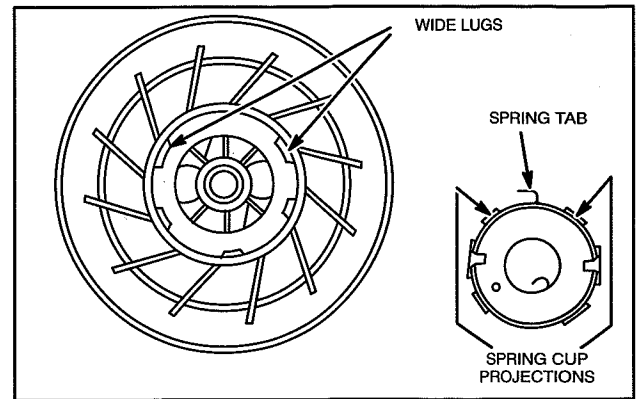

Fig. 21 – Install Spring Assembly – Early Style
1. Place spring and cup assembly in pulley with outer end of spring tab between two wide lugs in pulley and spring cup projections next to the two wide lugs, Fig. 21.